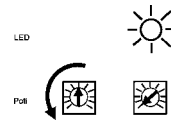

Figure 3.1: Setting 1
1. Turn the potentiometer to the left (Fig. 3.1) => LED lights up